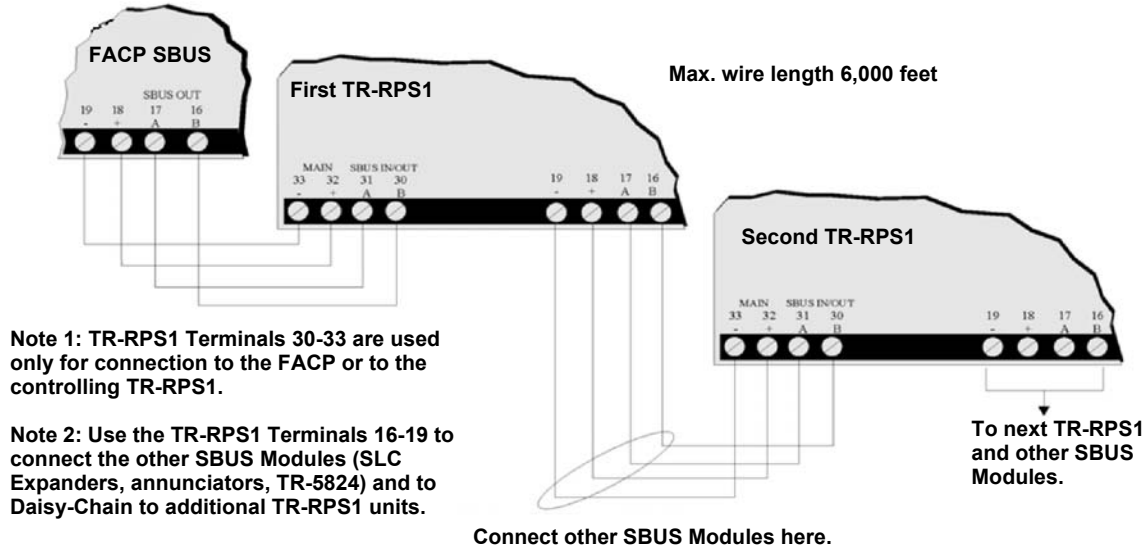
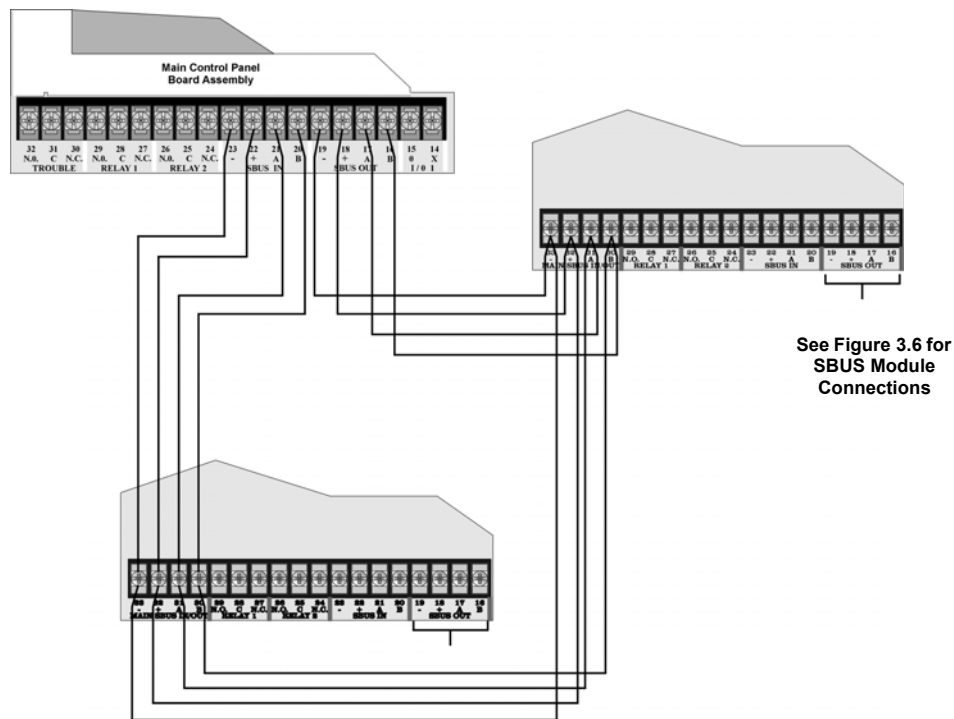

Figure 3.3 Class B TR-RPS1 Connection to FACP
Figure 3.4 Class A TR-RPS1 Connection to FACP
1. Connect the TR-RPS1 to the appropriate SBUS. The TR-RPS1 can be connected directly to the FACP or it can be daisy-chained to another TR-RPS1. Figure 3.3 and Figure 3.4 show both connections.